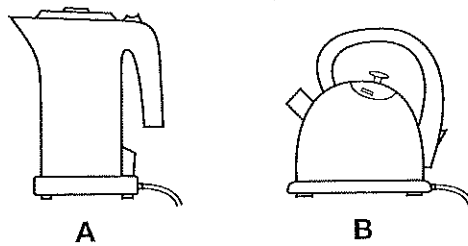

Fig. 4
- 4 Fig. 4 shows two different kettles.